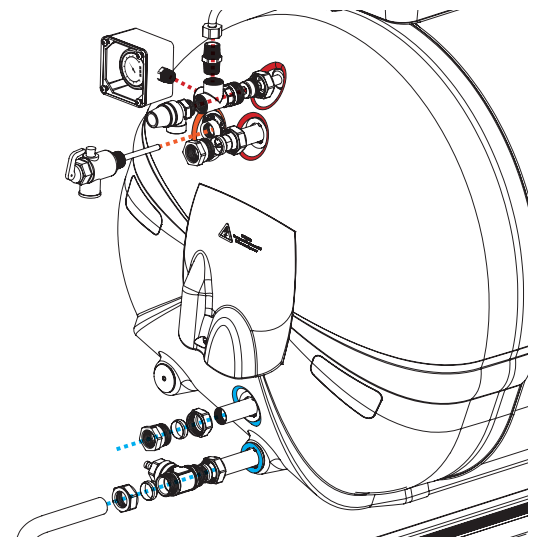

Figure 16. Connection end (closed circuit)
Slide the test point assembly union onto the closed circuit connection, tighten the assembly. Insert the tank end of the cold-side rigid pipe into the 22 mm connection union (*Figure 16*).
1. The cold water connection is made at the blue disc. Connect the cold water supply to the end of the $\frac{3}{4}$ " BSP female thread of the T-piece in the cold pipe assembly (see *Figure 16*).